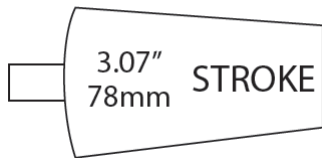

Figure 6: Reference tag
- Trapezoidal shaped tag with the stroke information detailed (figure 6)